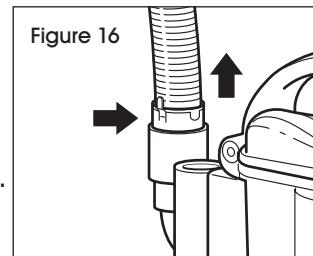

Figure 16
- Detach handle from wand by pressing the handle release button. Remove flexible hose from the vacuum pod by pressing the tabs on the hose collar. Inspect the hose for clogs. (See Figure 16)